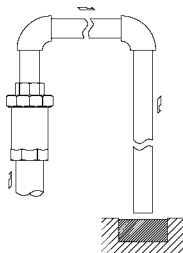

Figure 2
5. Install outlet piping leading to a drainage vessel or ditch. Make sure the end of the pipe is above the waterline, so that dirt and water can not be sucked up by vacuum when the system shuts down (Figure 2).